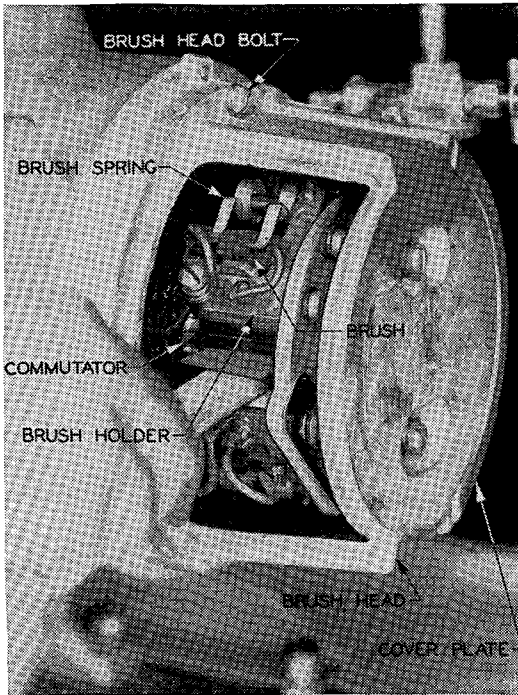

FIGURE 10.—Commutator cleaning.
b. Commutator (fig. 10).—(1) To inspect the commutator, remove the accessible brush head cover plate with an offset screw driver. The commutator should require no cleaning for several hundred hours of operation. It needs cleaning only when excessively carbonized.
(2) To clean the commutator, first start the engine and then place a strip of very fine sandpaper (00 to 8/0) (not emery) on the commutator and hold down with a stick of wood until commutator is clean.